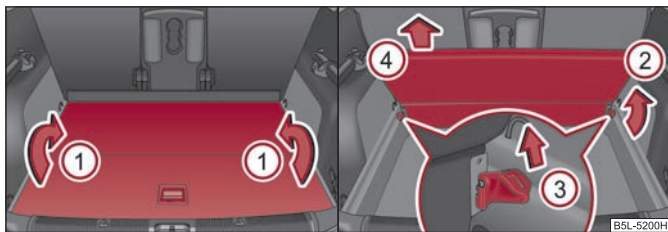

Fig. 74 Luggage compartment: Fold up variable loading floor / remove
- You can fold together the loading floor by moving it in direction of arrow ① ⇒ fig. 74.
- Raise the variable loading floor in direction of arrow ② ⇒ fig. 74.
- Pull on both sides of the locking levers in direction of arrow ③ ⇒ fig. 74.
- Pull the variable loading floor up and out in direction of arrow ④.